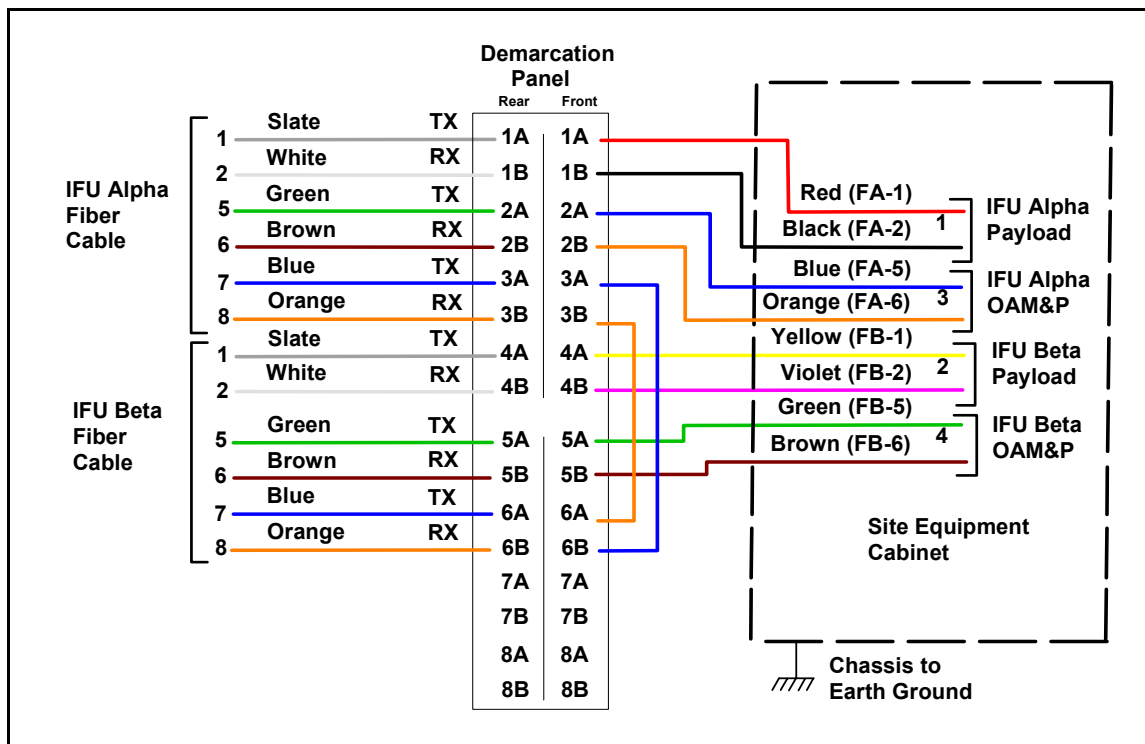

Figure 3-8. Typical SONET OC-3 Site Schematic
- 3** Connect the jumpers to the front of the demarcation patch panel as shown in Figure 3-7 ,Table 3-5, and Figure 3-8.